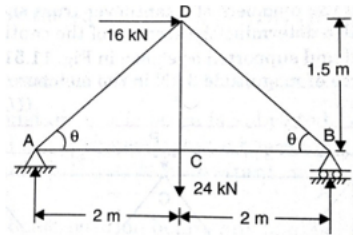

Figure 1
- (b) Analyze the axial forces in all the members of the plane truss carrying a horizontal load of 16 kN and a vertical load of 24 kN, as shown in Figure 1. [7M]